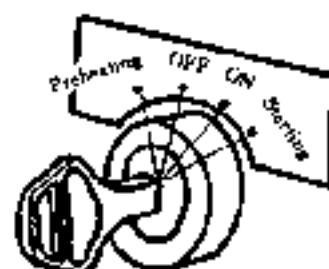

Fig. 4-2
4.2 Starting the engine(Fig.4-2)